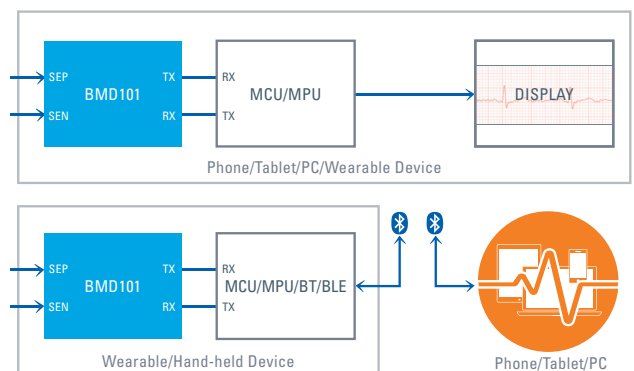

Figure 2 BMD101 Application Examples
- BMD101 is designed for easy integration into Wearable Devices, Smart-Watches, Mobile Phones, Phone Accessories, Tablets etc. It can be embedded in to these devices or it can be used with Bluetooth/BLE to communicate wirelessly with these devices, as shown in Figure 2.